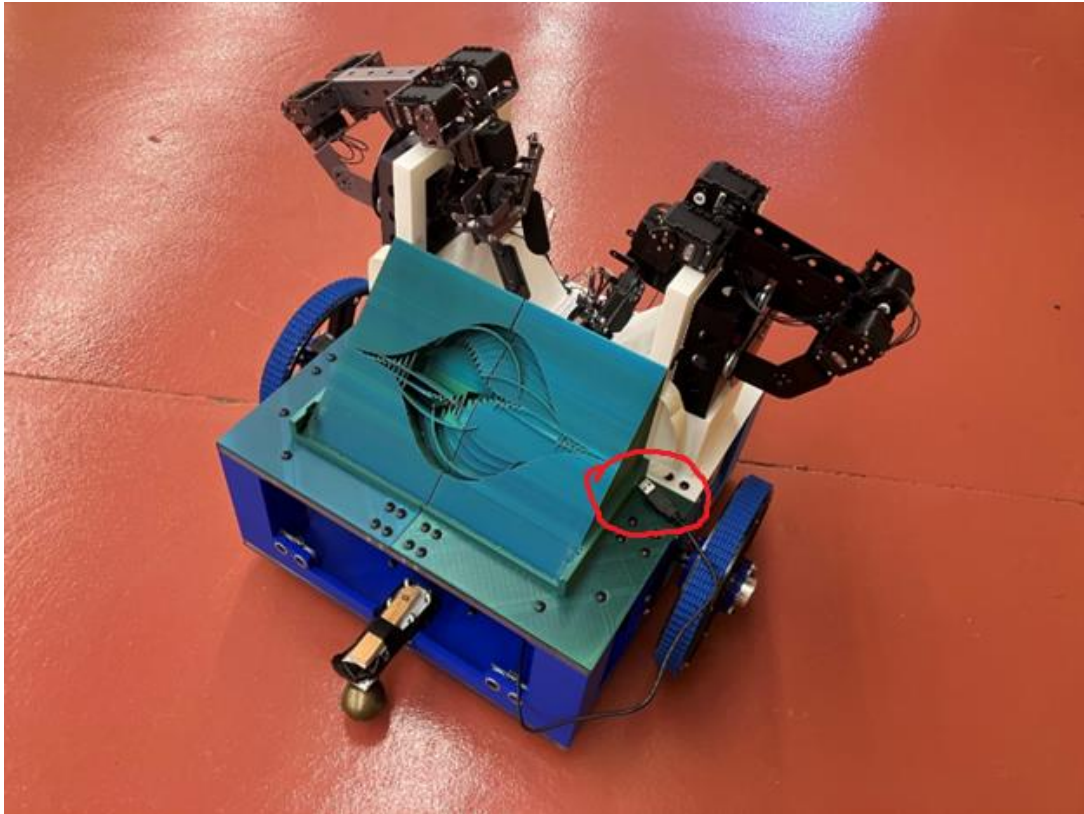

Figure 7a: Connect USB Cable to a Laptop Mounted on Top of the Robot's Logo
7. Plug in the 5V USB power supply for the Arduino Nano 33 BLE (refer to Figure 7a and 7b)